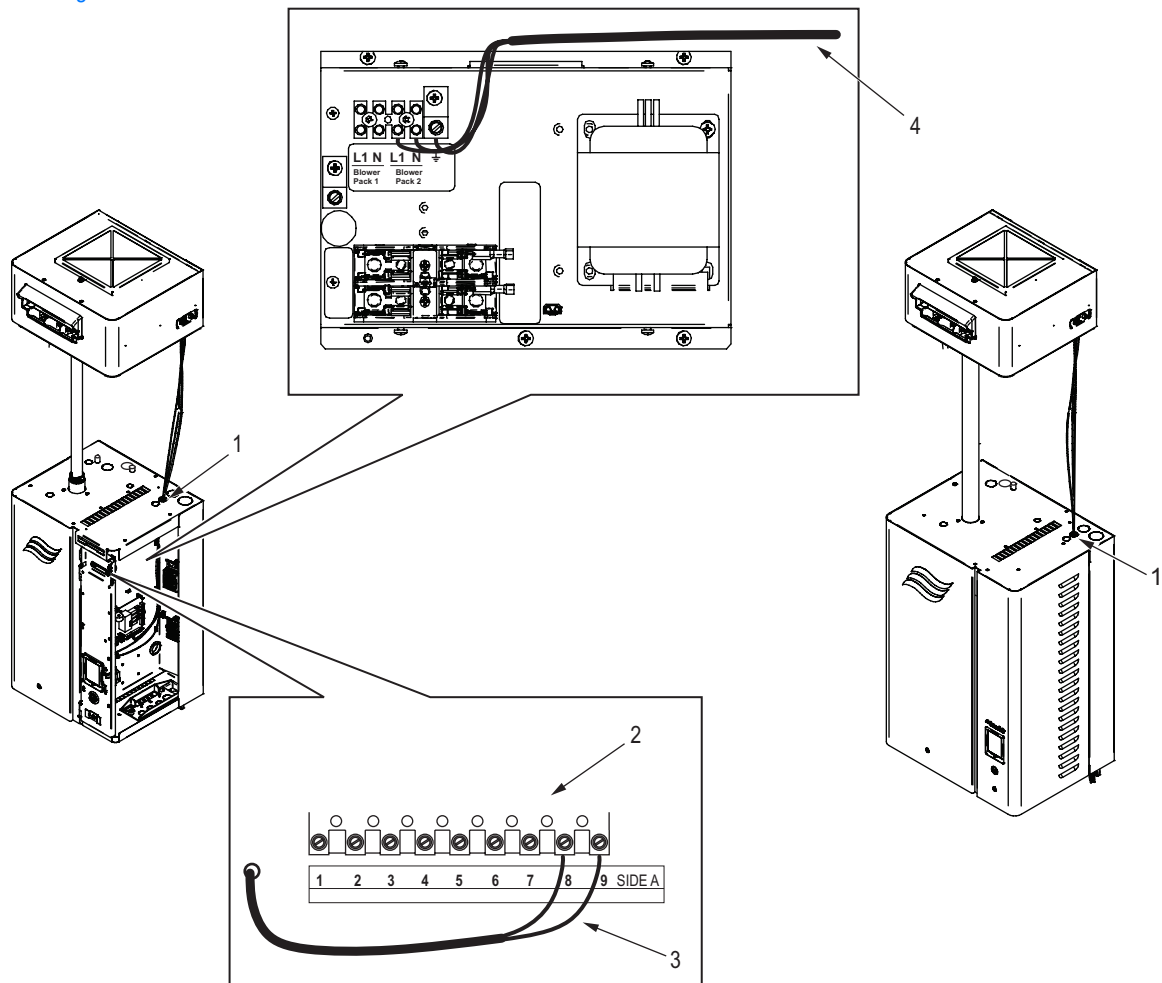

Figure 12: Humidifier Electrical Connections
- b. Punch the knockout hole in the top of the humidifier that is located directly below the Nortec BP-Series blower pack power connector. Refer to Figure 12.
- c. Install a grommet (supplied) in the knockout hole, and route the security loop cable (and the power cable if using the optional power kit described above) through the grommet, as shown in Figure 12.
- e. Run the security loop cable (and power cable - EL units only) along the cable chase and connect the leads to the terminal strips inside the humidifier unit, as shown in Figure 12. Ensure that the line wire in the **power cable is connected to "L1"**, the **neutral wire to "N"** and the **ground wire to "GND"** in the terminal strip. Use strain relief for power wires and follow all local codes for installation.